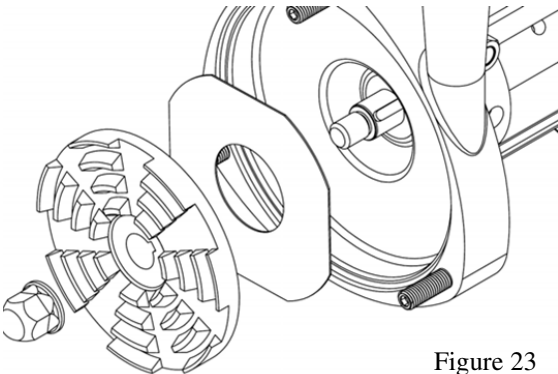

Figure 23
6. Remove the impeller nut, impeller, stub-shaft, setting shim, and clearance shim, Figure 23.